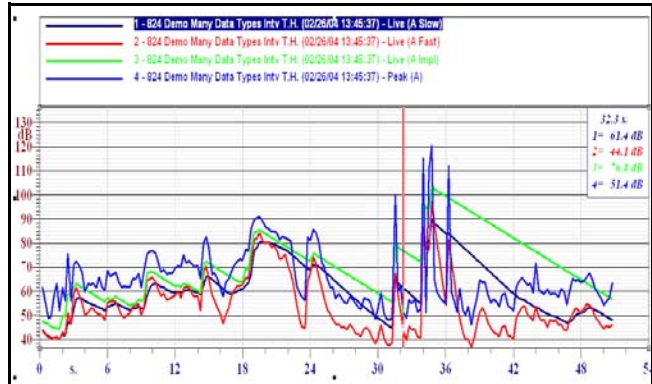

FIGURE 6-2 Time History: Live A-weighted curves for Slow, Fast, Impulse and Peak
Using the Properties Menu, edit this graph to represent Live (A Slow). Then, add new curves to represent Live (A Fast), Live (A Impulse) and Peak (A) as shown in FIGURE 6-2 "Time History: Live A-weighted curves for Slow, Fast, Impulse and Peak" (note that the Peak (A) is found at the top
To have the same graph seen in FIGURE 6-2, modify the cursor box on the upper right to be a multiple parameter cursor box as described in "Multiple Parameter Cursor Box" on page 3-19. It may also be necessary to Autoscale the axes (See "Autoscale the Amplitude" on page 8) and move the legend above the graph area (See "Move the Legend" on page 16).